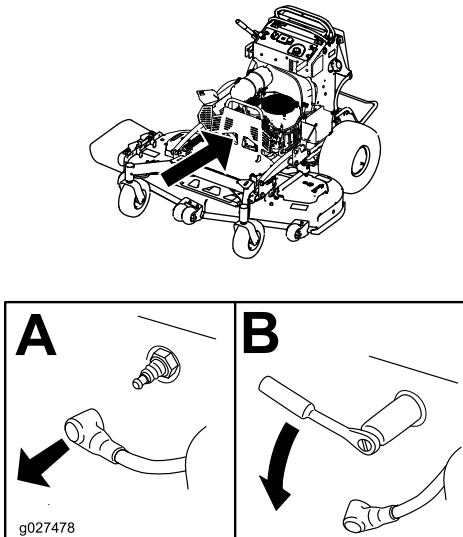

Figure 43
3. Remove the spark plug as shown in Figure 43.